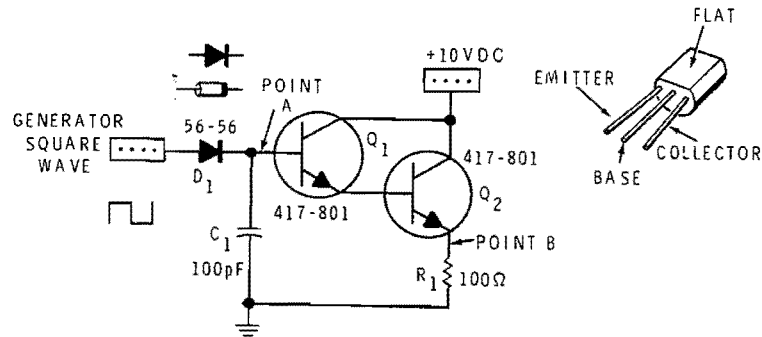

Figure 2-11
18. Construct the circuit shown in Figure 2-11. Turn on the Trainer.
19. Connect channel 1 of the oscilloscope to point B (refer to Figure 2-11).
When one common-collector amplifier follows another in a Darlington amplifier configuration, like the one in Figure 2-11, the input resistance is very high. It is the result of the beta of  $Q_1$  multiplied by the Beta of  $Q_2$  multiplied by the emitter-resistor. Considering a Beta of 100 for each transistor, the input resistance for the circuit will be 1 megohms. This resistance across the 100 picofarad capacitor results in a time constant of 100 microseconds, which you should have measured in step 20. (Your time may have been slightly different due to beta tolerance differences.)